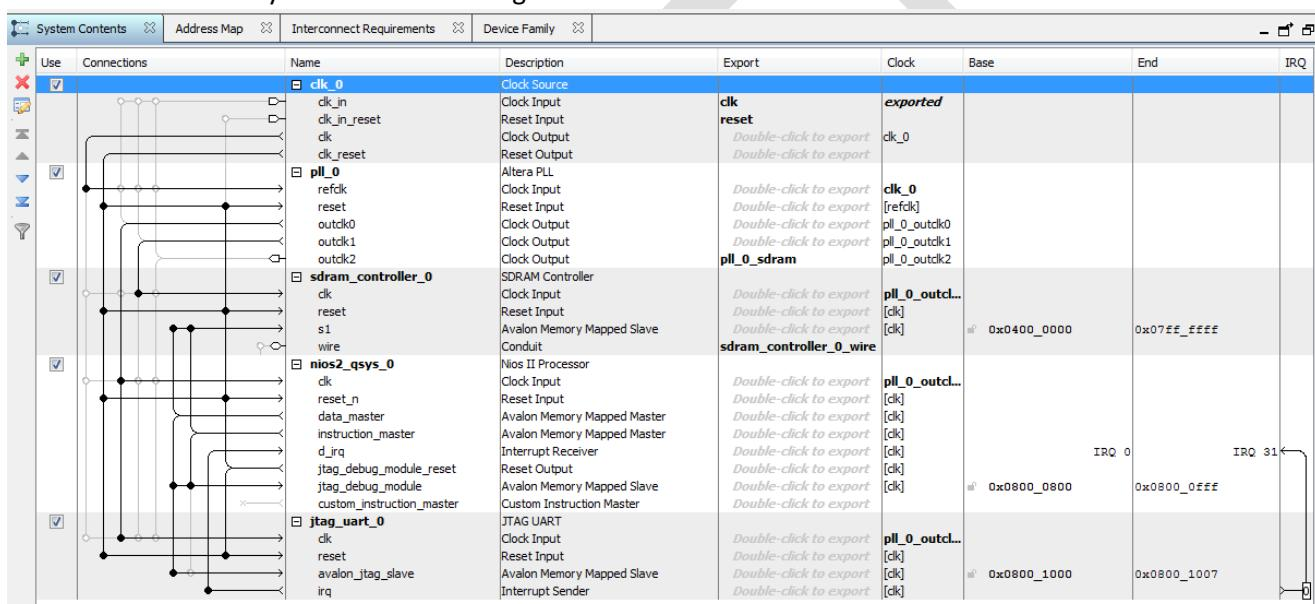

Figure 8-2. Basic Nios II System with SDRAM and JTAG UART
- Connect the system as shown in Figure 8-2 below: